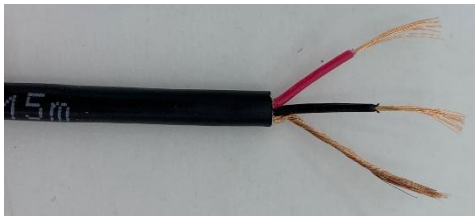

Figure 19: Transducer cable with outer jacket and individual wire jackets stripped back.
7. Strip the black and red cables using the smaller gauge wire strippers for about 0.5 to 1.25 cm (Figure 19).
4. Strip back the jackets of the red and black wires using the smaller strippers about 1.5 cm (similar to Figure 19). Twist the copper strands for each wire together.